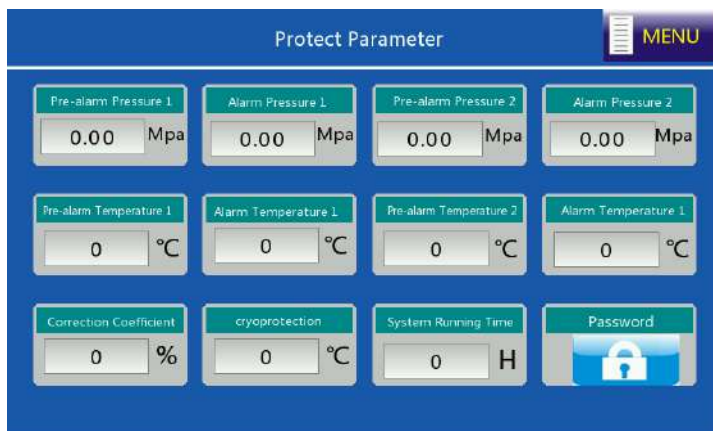

Figure 4-12 Protection parameter interface
Step 7 Choose **Protect parameter** in the menu. The interface shown in Figure 4-12 is displayed.